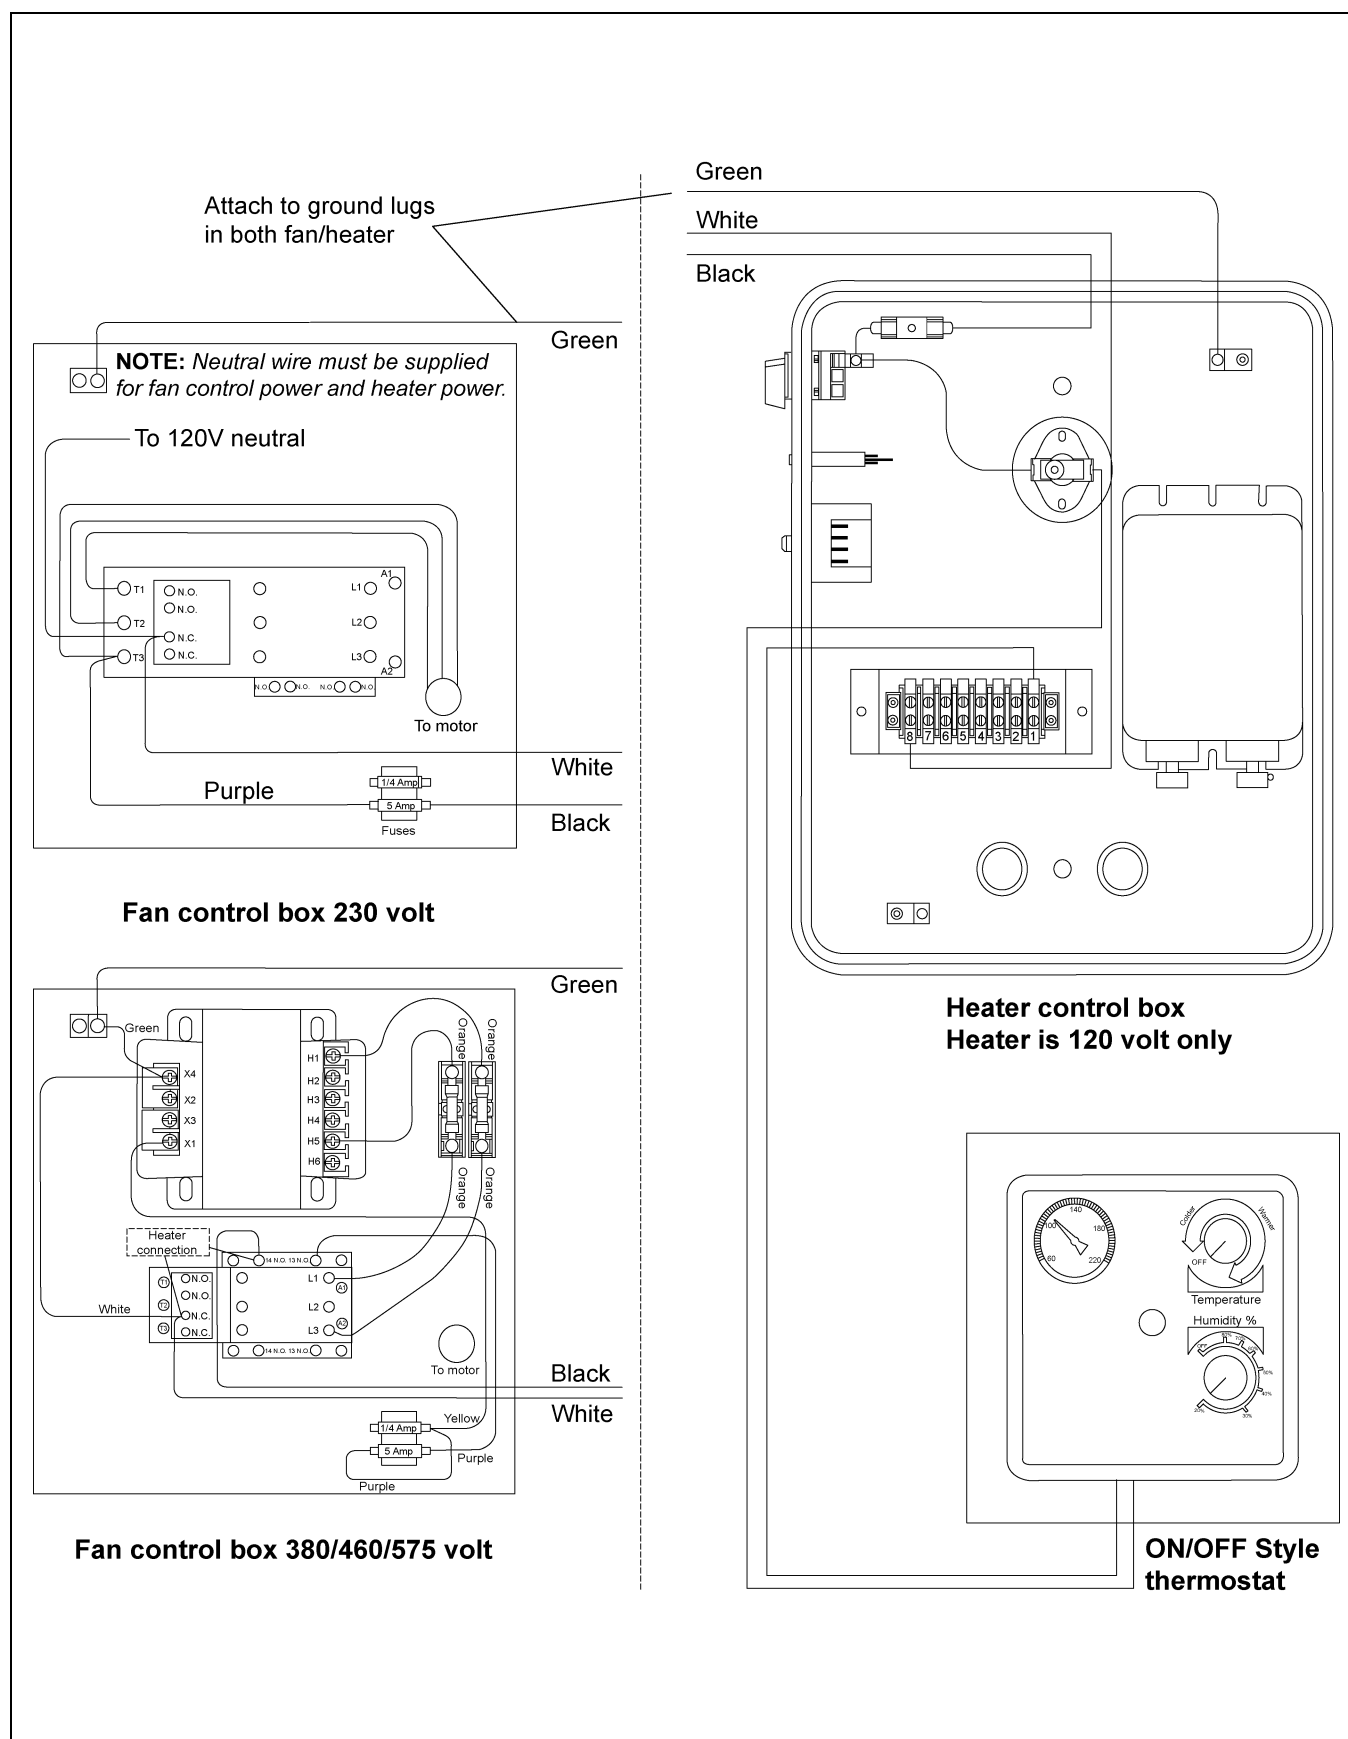

Figure 5B Heater Wiring Installation on a Fan Unit
2. Make field connections in fan box as shown in Figure 5B on Page 18.
3. Connect deluxe thermostat control (optional) as shown in Figure 5B on Page 18.
3. Connect deluxe thermostat control as shown in Figure 5B on Page 18.